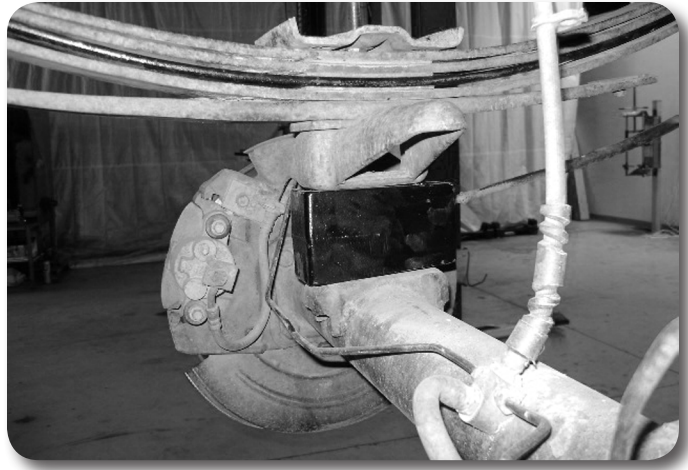

Figure 24
12. Install the new tapered lift block on the axle spring perch so that the short end is toward the front. Install the factory block on top of the new lift block. **Figure 24**